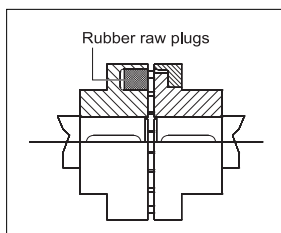

FIG. 34 (Rubber raw plugs)
8.1- Routine maintenance (FIG. 34)
Rubber raw plugs of the coupling joint	Check the tear and wear (s. FIG. 34); if necessary, replace.